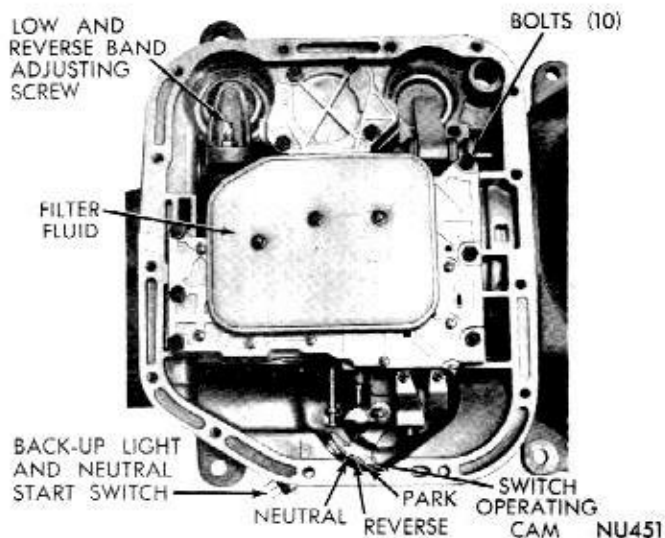

Fig. 7—Bottom View of Transmission (Pan Removed)
(1) Raise vehicle, drain transmission fluid and remove the oil pan.
(2) Loosen adjusting screw lock nut and back off nut approximately five turns (Fig. 7). Test adjusting screw for free turning in the lever.
(3) Using wrench, Tool C-3380 with adapter C-3705, tighten band adjusting screw 47 to 50 inch-pounds. If adapter C-3705 is not used, tighten adjusting screw to 72 inch-pounds which is the true torque.